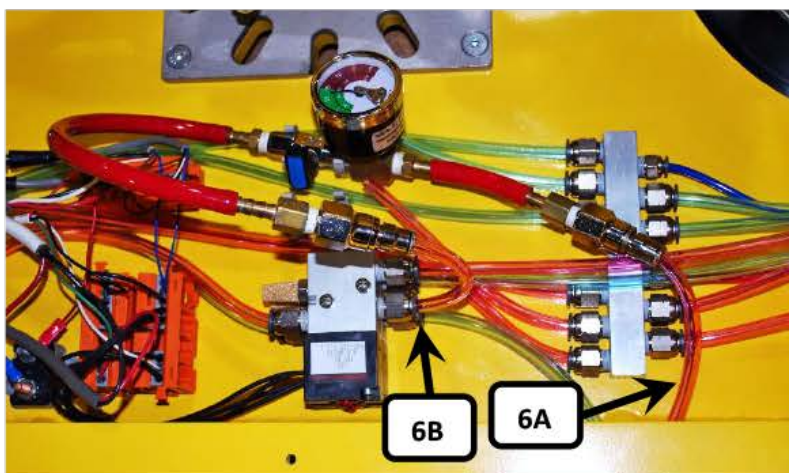

FIGURE 6
12) Remove the hose (6A) from the opposite side of the solenoid that connects to the vacuum tanks. Attach the end of the ball valve with the vacuum gauge to this hose and attach the other end of the ball valve to the solenoid valve (6B). See **FIGURE 6**.
14) Allow the vacuum system to shut off automatically and, with the lifter still on and in apply mode, close the ball valve (turn handle perpendicular to valve) as shown in **FIGURE 6**.